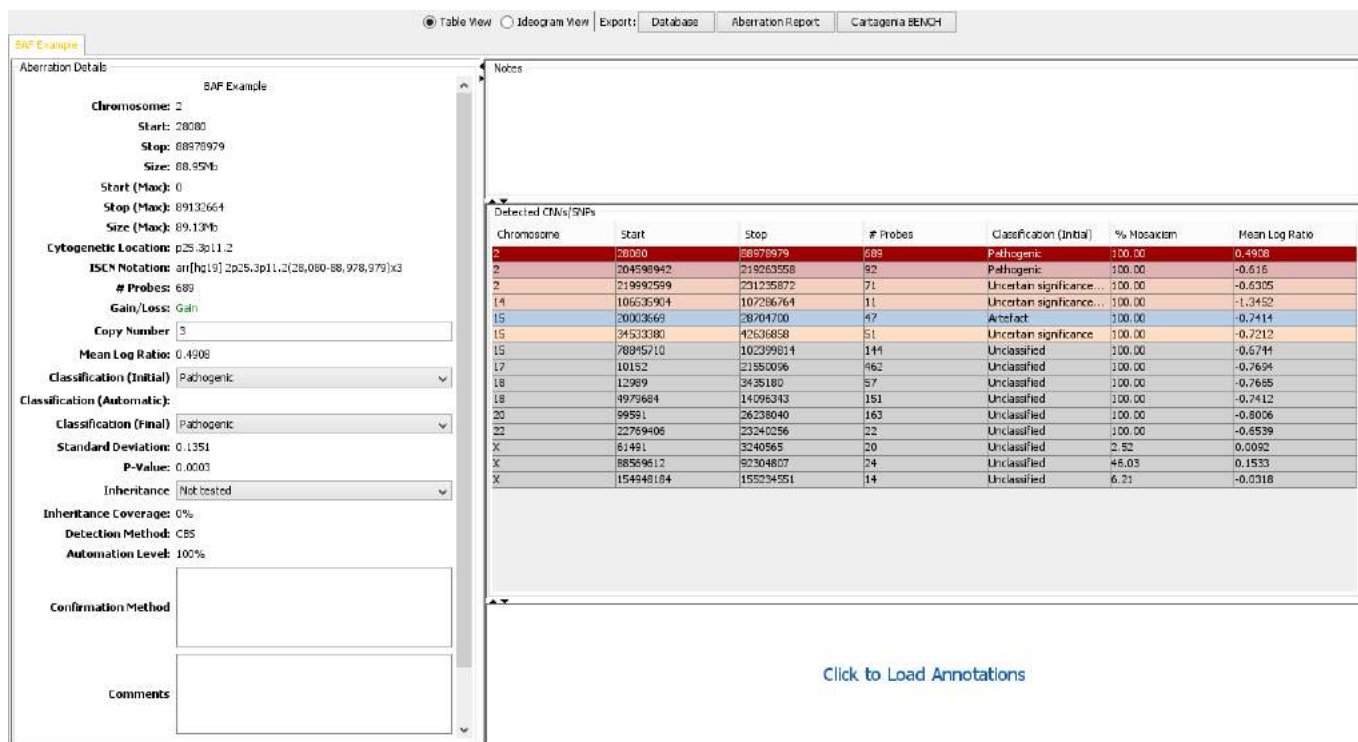

Figure 11: CNVs/SNPs tab displaying the table view.
The **CNVs/SNPs** tab (Figure 11) offers two alternative ways in which to view aberrations; as a table or an ideogram. As with the **Genomic View** tab, the **CNVs/SNPs** tab can be split into several sections, as outlined below.
- These alter what is displayed in the **Detected CNVs/SNPs** section of the page (Figure 11, middle right).
This section of the page, which displays additional aberration details, can be seen on the left-hand side of Figure 11. The details loaded will correspond to the aberration highlighted/selected in the **Detected CNVs/SNPs** section. Some of these details, such as classification and inheritance, can be altered here.
As seen near the middle right of Figure 11, this section displays sample associated notes. It is possible to edit these notes here.